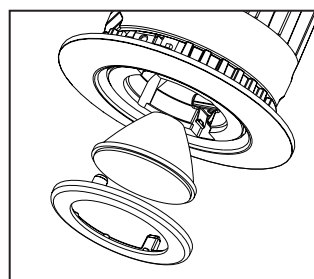

Figure 20
Step 2. Place the desired optic onto the gimbal face. Align the 2 posts on the gimbal face with the spring receivers in the gimbal body. Push the face and optic into the gimbal body (Fig. 20).